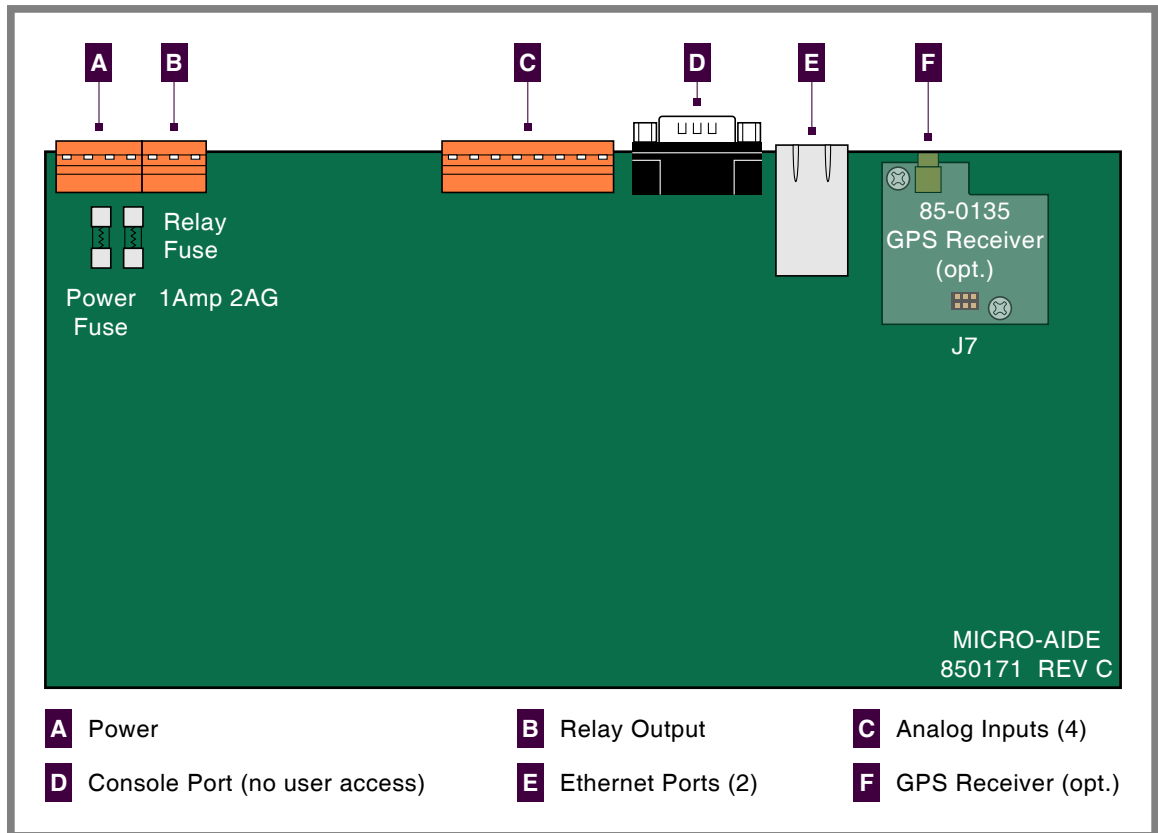

Figure 9: Processor PCB
There are two fuses mounted on the Processor PCB. The fuses are designed to protect the input power source and the contacts of the Relay Output. Each are rated at 1 A and conform to the 2AG size standard. Before replacing a fuse the cause of the blown fuse should be ascertained and cleared if possible. The fuses are illustrated in Figure 9 on page 92.
Generally, the GPS Receiver is ordered at the time the recorder is purchased and is pre-installed at the factory. However, if the receiver was not previously ordered, it can be installed by the user. To install the receiver follow the steps listed in the following. The GPS Receiver PCB is illustrated in Figure 9 on page 92.
3. Locate the 6-pin female socket labeled "J7" near the top edge of the Processor PCB. The socket is illustrated in Figure 9 on page 92.